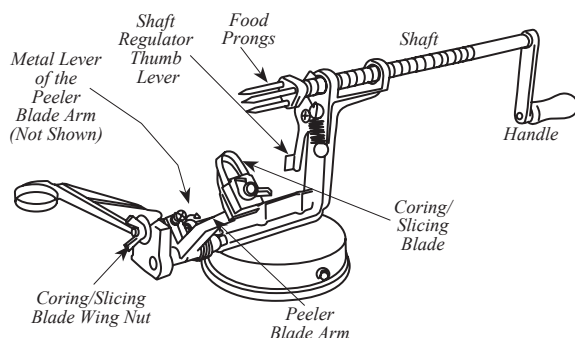

FIGURE 3
2. Press Shaft Regulator Thumb Lever to release the stopper from the Shaft. Pull on the Handle until the Shaft is completely pulled back (**FIGURE 3**).